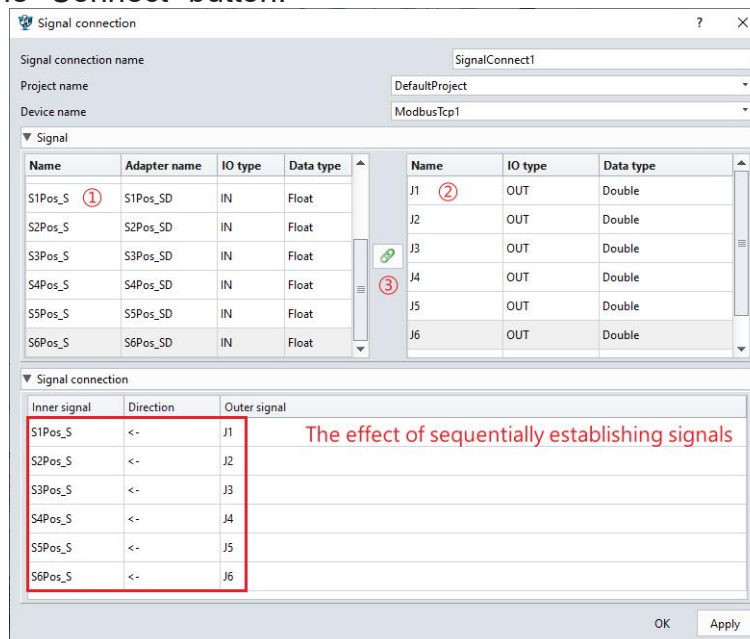

Figure 12-20: Connection method
- ✧ Click the internal signal "S1Pos_S" in the left column. (Figure 12-20, point ①)
- ✧ Click the external signal "J1" in the right column. (Figure 12-20, point ②)
- Repeat steps for all remaining pairs of internal and external signals, connecting them according to the order shown in Figure 12-20 (① -> ② -> ③).